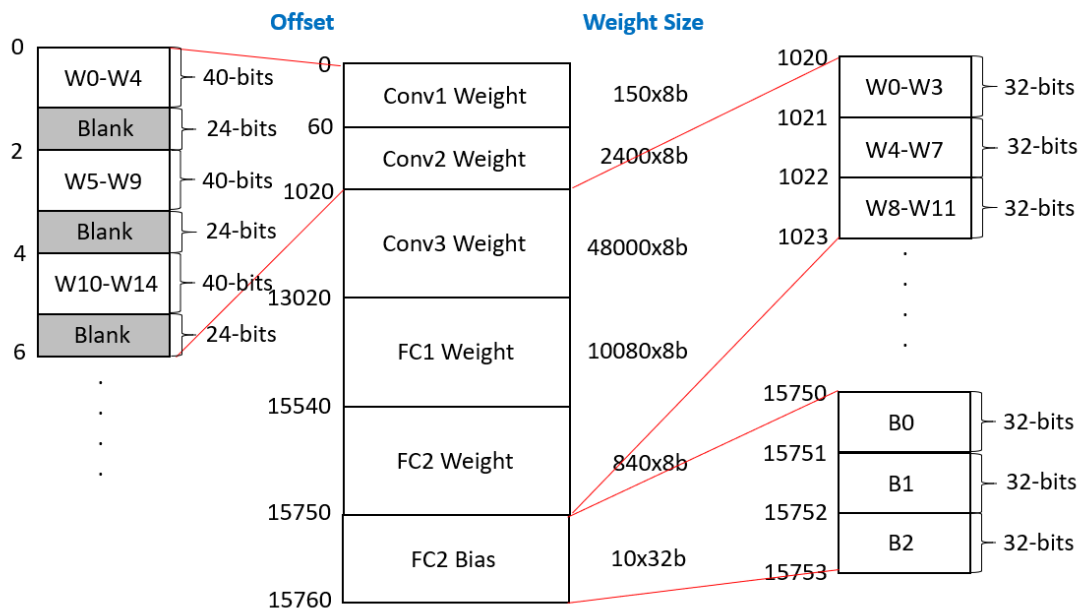

Figure 1: Layout of weight SRAM.
3. Figure 1 shows the layout of the weight SRAM. In Conv1 and Conv2 weight layers, we only store five 8-bit weights in every two addresses, which is possible to access five weights in one clock cycle. Since Conv3 layer can be treated as a fully-connection layer, for Conv3, FC1, and FC2 weight layers, we store four 8-bit weights in each address. For FC2 biases, one 32-bit bias is stored in every address.
5. You should use the **parameter.zip** (with image, weight, bias, quantization scale, and golden data) generated and submitted in Homework 2 to validate your design, which should be pre-processed to match the format in Figures 1 and 2 (i.e., **you have to write your own tool to convert the format**). It is recommended to understand the testbench before writing your own pre-processing code. (You may use either C++ or Python, or any programming language.)